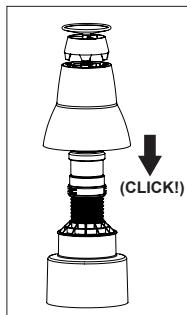

Figure 12
6. Attach the *Termination Top* to the *Termination Cap* (clicks when engaged), then insert the *Flex Female Adapter* into the *Termination Cap*. Push the assembly onto the *Termination Base* (clicks when engaged, see **Fig.12**).